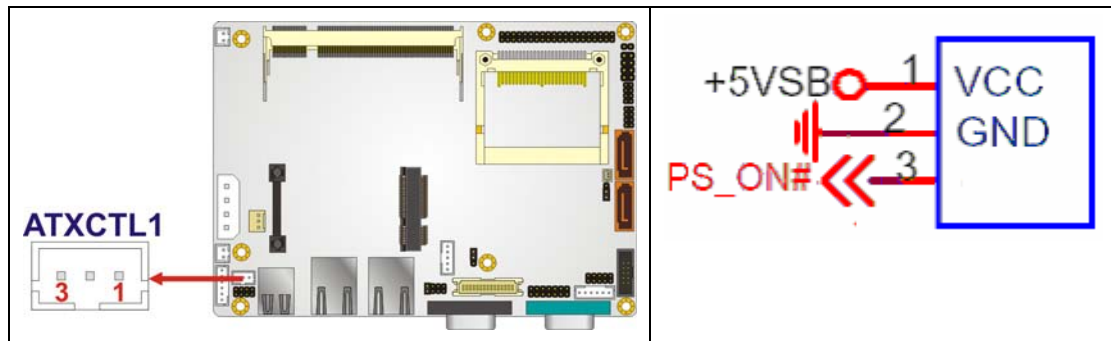

Figure 4-3: ATX Power Supply Enable Connector Location
- CN Location:** See Figure 4-3